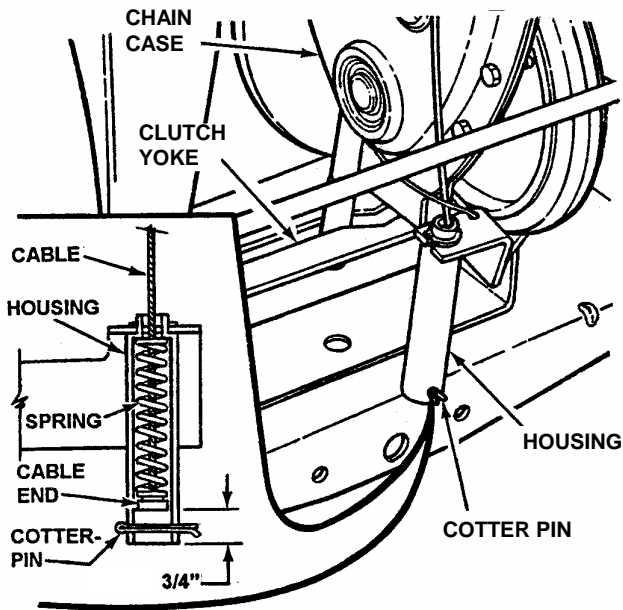

FIGURE 4.9
5. Measure the distance between end of clutch/brake cable and bottom of housing. Measurement should be $3/4$ ". See inset, Figure 4.9.
7. Adjust cable up or down using the jam-nuts to obtain a distance $3/4$ " between end of clutch/brake cable and bottom of housing. See Figure 4.9.